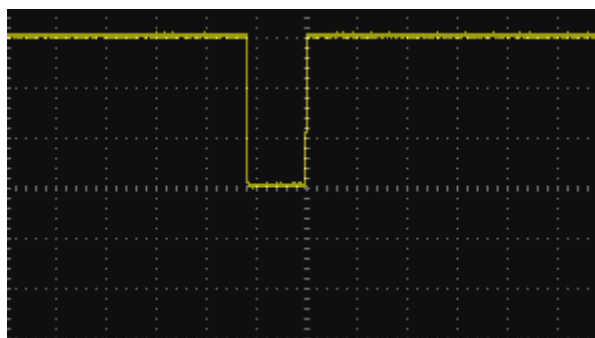

Figure 2-7 Pulse Waveform
5. Move the waveform on the screen up, down, or sideways so that any portion of it falls outside of the Pass/Fail mask. If the interface is operating normally then a pulse will appear on the second oscilloscope (Fig. 2-7). Adjust the second oscilloscope's time base and voltage scale as needed. If there is no viewable pulse on the second oscilloscope then there may be a problem with this function.